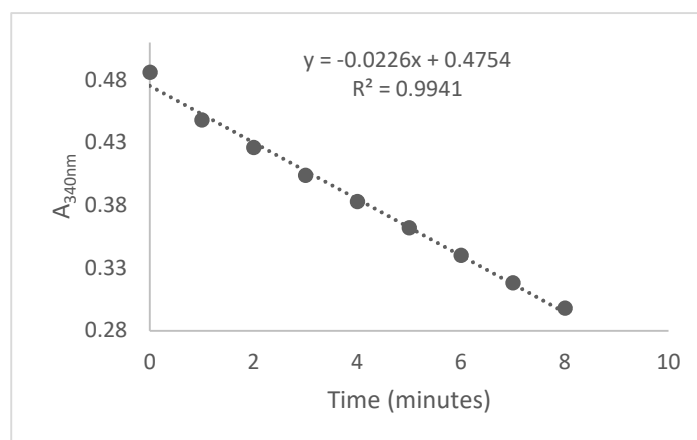

Figure 1. Absorbance changes of diluted GAPDH positive control at 340nm.
2. Add 145 μL of working reagent mix into each well of the 96-well plate containing diluted GAPDH positive control, samples and blank, mix well immediately and start recording $A_{340\text{nm}}$ over a 12 minutes interval, collecting data every 1 minute. Figure 1 shows data of GAPDH positive control.